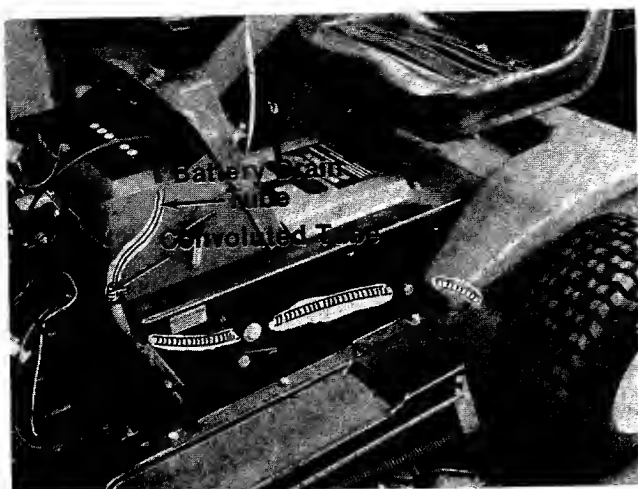

FIGURE 13.
17. Feed the end of the battery drain tube into the convoluted tube already installed in tractor. See figure 13.